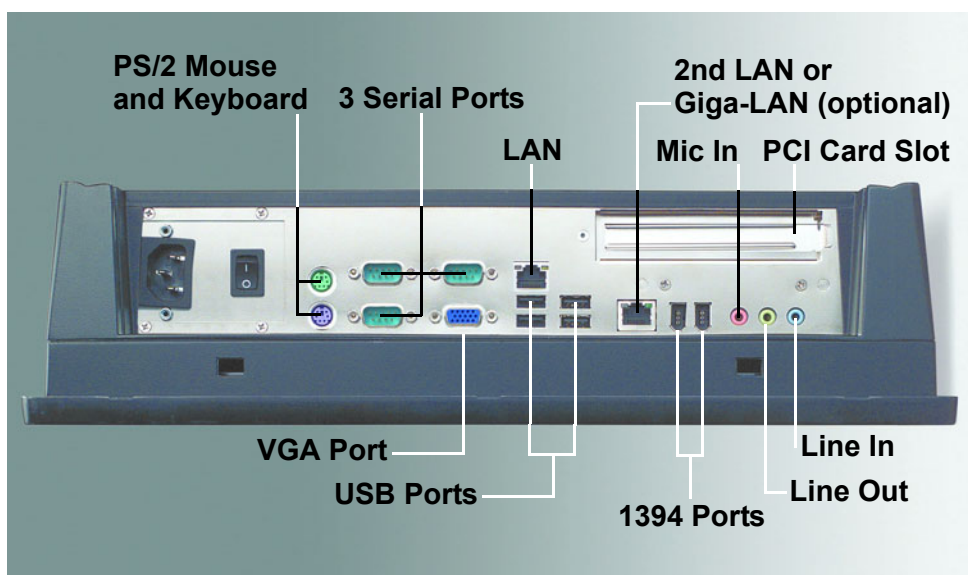

Figure 3.4 I/O ports
2. Attach the interface cable of the serial device to the panel PC's serial port. (See Fig. 3-4.) If necessary, attach the other end of the interface cable to the serial device. Fasten any retaining screws.
2. Connect the external monitor to the system. (See Fig. 3-4.)
1. Connect the external device to the system. (See Fig. 3-4.)
The audio interface includes three jacks: Microphone in, Line out and Line in. (See Fig. 3-4.) Their functions are:
1. Connect the audio device to the system. (See Fig. 3-4.)